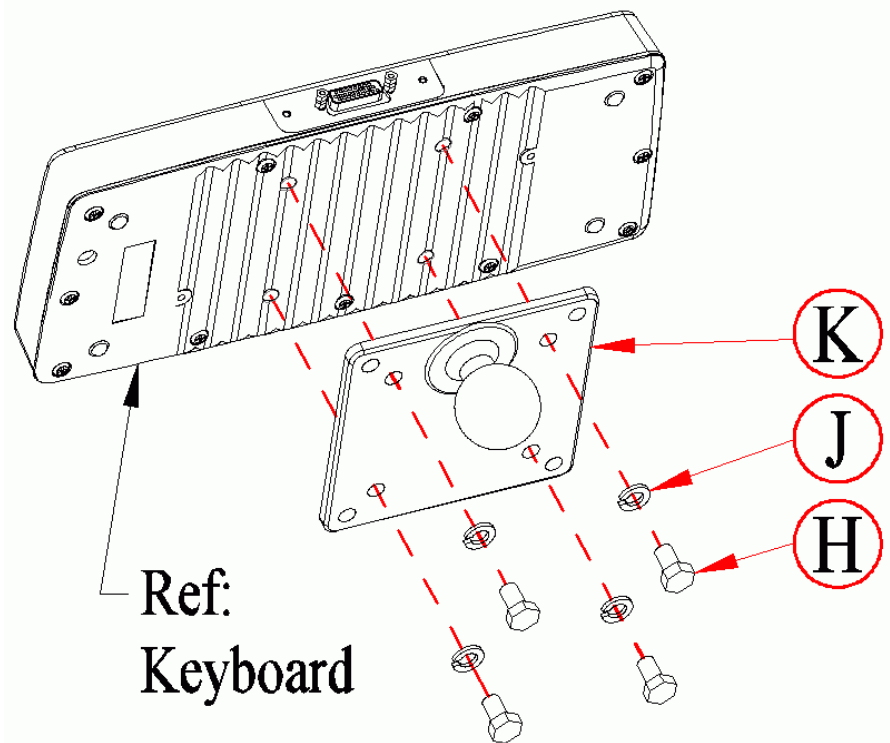

Figure 6.
Place Screw (H) through Split/Lock Washer (J), VESA Mount (K), and affix to the referenced Keyboard. Four places (see Figure 6).